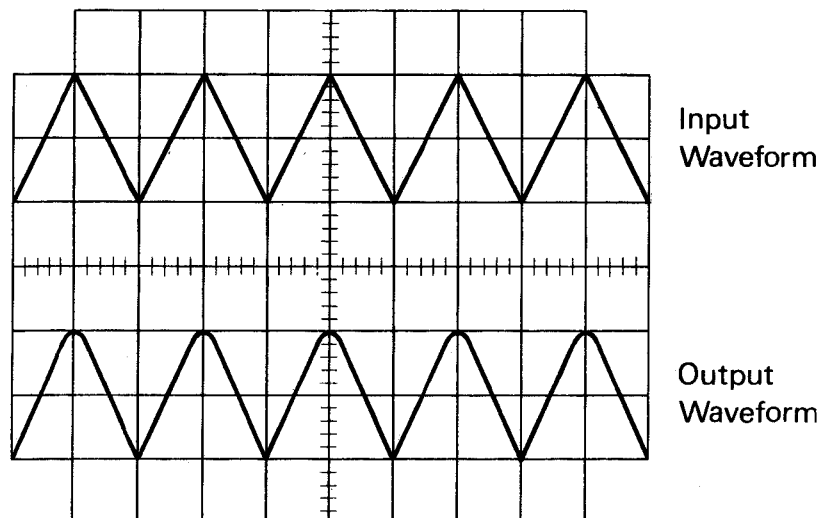

Fig. 8. Amplifier overload characteristics.
2. Using the test set-up of Fig. 5A and using the triangle output, the peak overload condition for an amplifier can be readily determined. This overload condition is shown in Fig. 8.